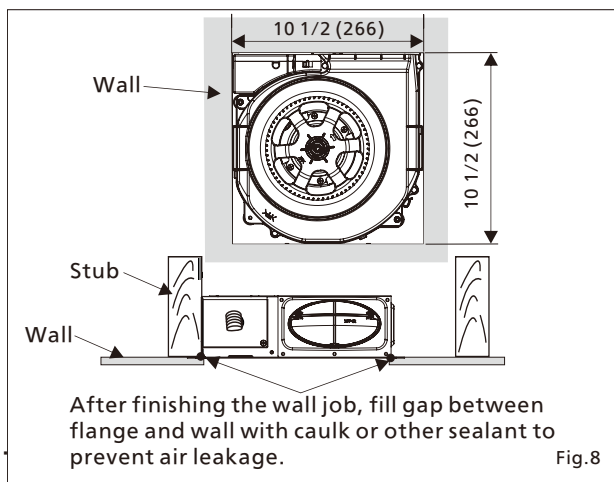

Fig.8
4. Finish the wall work. Wall hole should be aligned with the inside edge of the flange. (Fig.8)